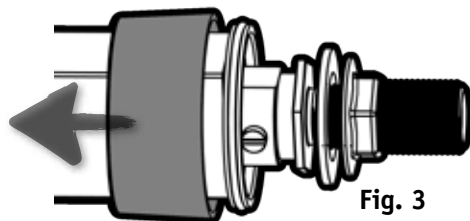

Fig. 3
- 4) Slide the ISOLATION COVERS 4 away from the THREAD TAILS 3 to expose the ISOLATION VALVES 5 (Fig. 3)